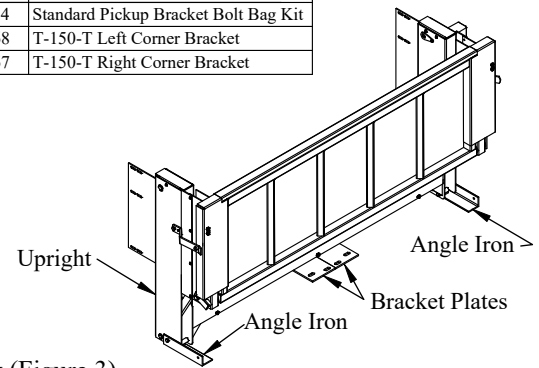

Figure 3: Complete liftgate (G² shown).
4. Unbolt and Save the two (2) angle irons attached to the liftgate uprights - **G²** only (Figure 3).
5. Remove and Save the two (2) bracket plates attached to the liftgate - **G²** only (Figure 3).